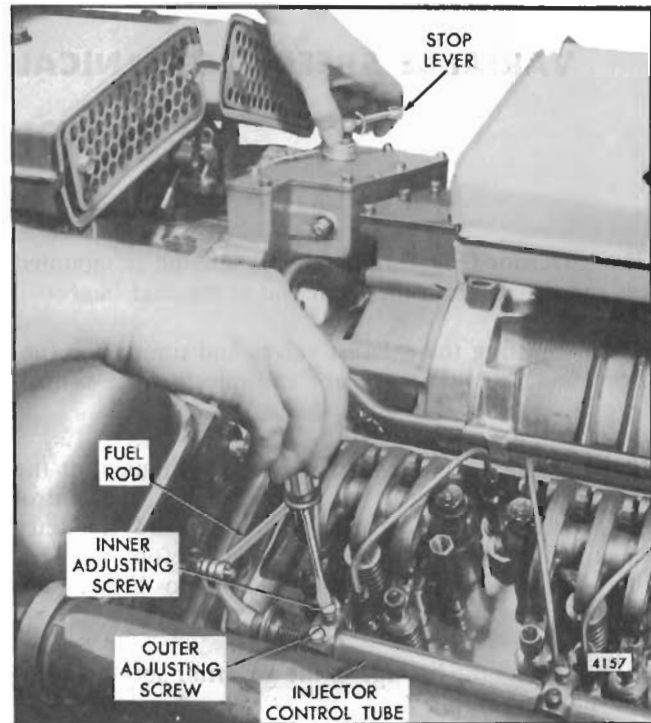

Fig. 4 - Positioning No. 4R Injector Rack Control Lever
4. Move the stop lever to the RUN position and hold it in that position with a light finger pressure. Turn the inner adjusting screw of the No. 4R injector rack control lever down until a slight movement of the stop lever is noted (Fig. 4). Turn down the outer adjusting screw until it bottoms lightly on the control tube. Then alternately tighten both the inner and outer adjusting screws.